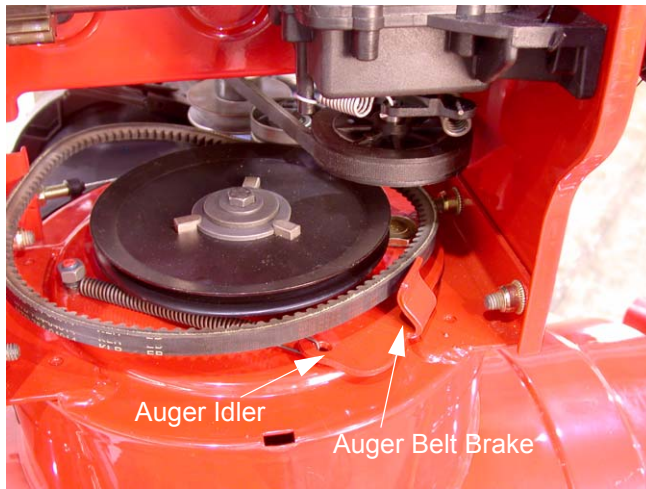

Figure 4.4
- 4.4. Squeeze the auger control bail to release the tension on the auger belt brake; remove the belt. See Figure 4.4.